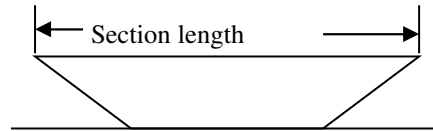

Figure 2
- **Description:** Represents section length (see Figure 2). The values are in tenths of a millimetre (1/10mm). For example 1230.5mm = “**12305**”.